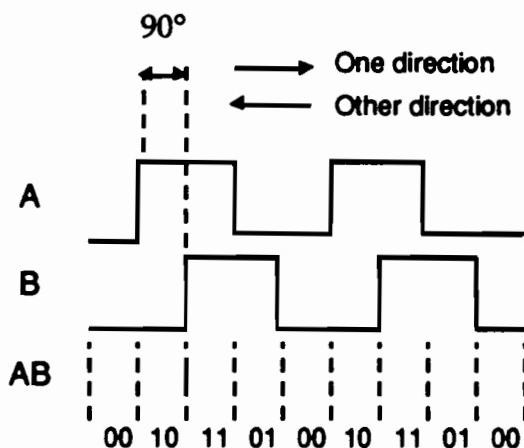
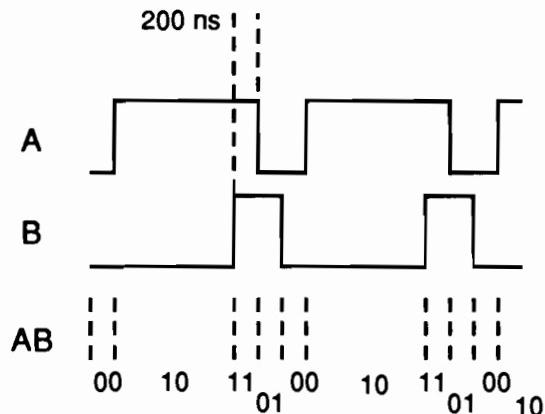

Figure 1. Ideal quadrature relationship.
Figure 3. Another "quadrature" relationship.
A quadrature relationship between two signals, as the name implies, assumes a 90 degree phase difference between them, as shown in figure 1. Note that the resulting composite code (AB) follows the reflected (Gray) code sequence which has the property that only one bit is changed between consecutive values.
While at a constant non-zero speed the output of these encoders might look like the one shown in figure 1, it is generally accepted that the encoder is producing a quadrature output as long as the correct relative sequence of level transitions is obeyed and the interface circuitry's timing requirements are met. In other words, the duty cycle of the output waveforms need not be 50%.
An acceptable encoder output might look like the one shown in figure 3. Note that the same sequence of composite output codes is observed in both directions, as in figure 1.
With the NEURON CHIP running at 10 MHz, the input to the quadrature pins is sampled every 200 ns. Therefore, any external encoder output values at the quadrature inputs which occur faster than every 200 ns will not be recognized (Figure 3). As a consequence, the maximum frequency on either A or B inputs of the NEURON CHIP running at 10 MHz must not exceed 1.25 MHz. This should be more than enough for typical user-interface applications. The sampling rate scales at lower clock speeds.